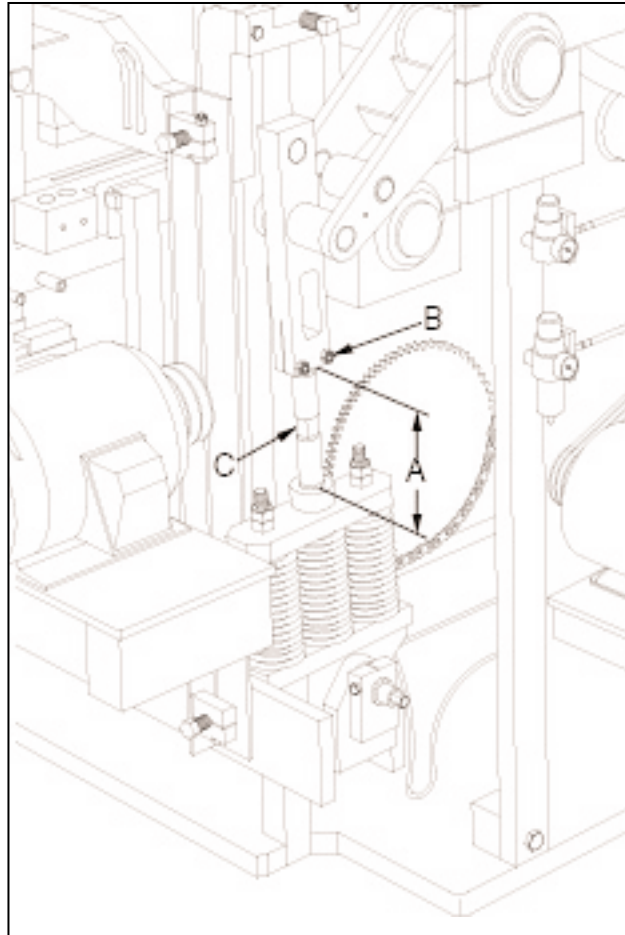

Figure 4.7 ADJUSTING PALLET RECEIVER LINKS
- 4.1.14 Adjust the pallet receiver link assemblies to a dimension of **7" [178mm]** (A) between the upper and lower link assemblies (see figure 4.7). To do so, loosen the two bolts (B) and turn up or turn down (C) with a wrench.